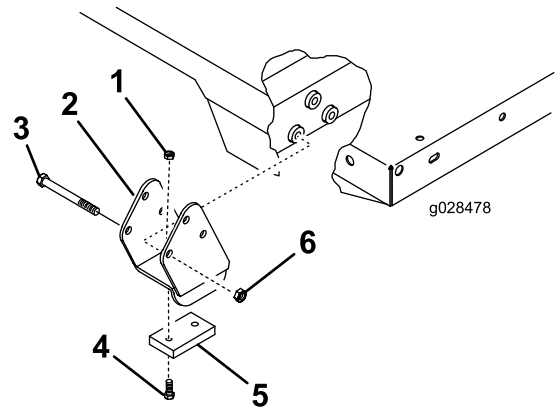

**Figure 2**
**Note:** Position the brackets on the flatbed as shown in Figure 2.
**Note:** On a Workman 3000 or 4000 with a full flatbed, ensure that the rear pivot brackets are bolted to the bed frame or channel so that the lower end angles to the rear (Figure 2).